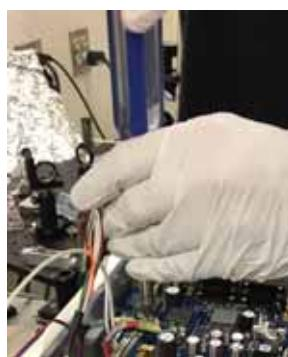

Figure 4.4-1. Removing Power Input and RF Connections
14. Remove all connectors to the headboard. There should be 23 connectors in all, including the two main power input wires that require a Phillips head screwdriver (note the polarity of the wires before removing them) and an RF connector that requires a 1/4" wrench. See Figures 4.4-1 and 4.4-2 below.